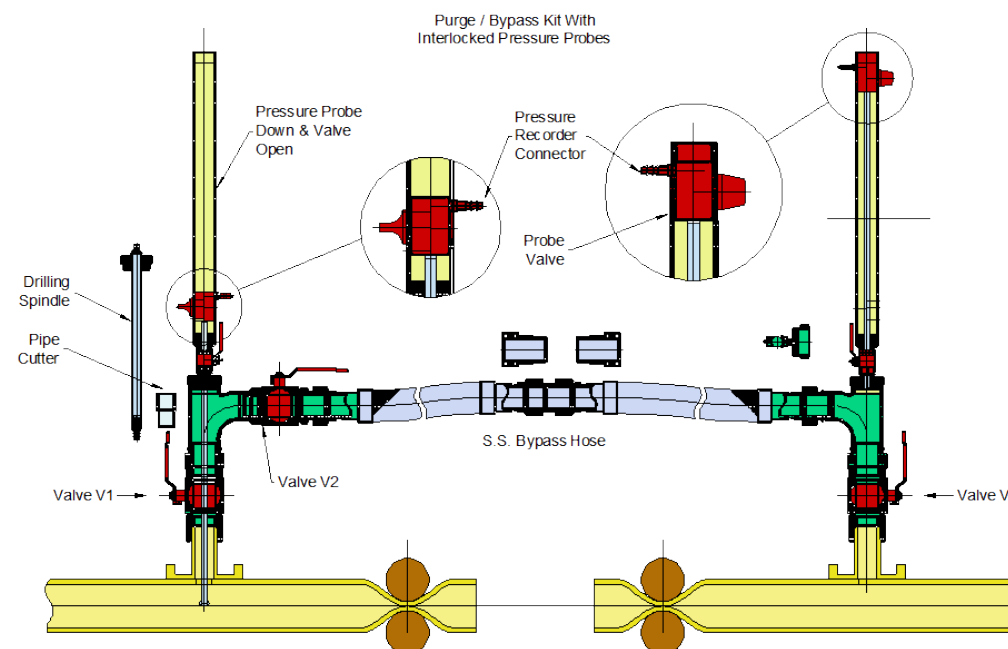

Figure 94- Bypass Kit with Integral Pressure Sensor
1. Electrofuse a 63mm X 63 mm tapping tee onto the main following guidance in Appendix C & D. Figure 94.